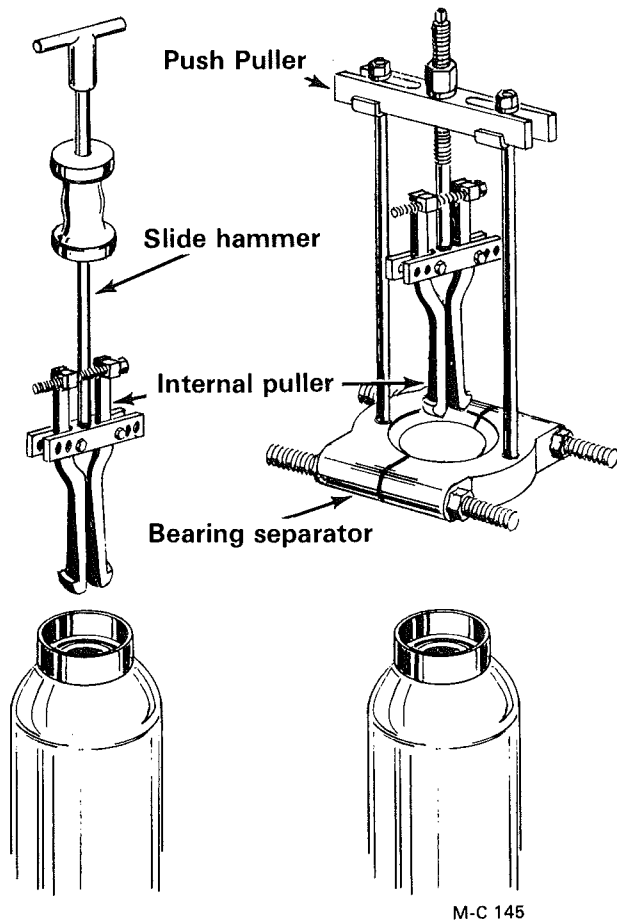

Figure 39
1. Use an internal bearing puller, like those shown in Figure 39, to remove the bearing from the end of the gauge roller.
3. Remove cotter pin (12), castellated nut (13) and idler bolt (3) from the idler arm (2).
4. Use an internal puller, see Figure 39, to remove the bearing seals (6) and bearing cups (8).
5. Pack the new bearing cones (7) with a good grade of wheel bearing grease. Press the bearing cups (8) into the hub, install the bearing cones (7) and press in the bearing seals (6).
6. Put a hub spacer (5) on each side of the hub assembly and place the assembly in the idler arm (2). Install idler bolt (3) and castellated nut (13). Tighten the nut just enough to hold the assembly together.